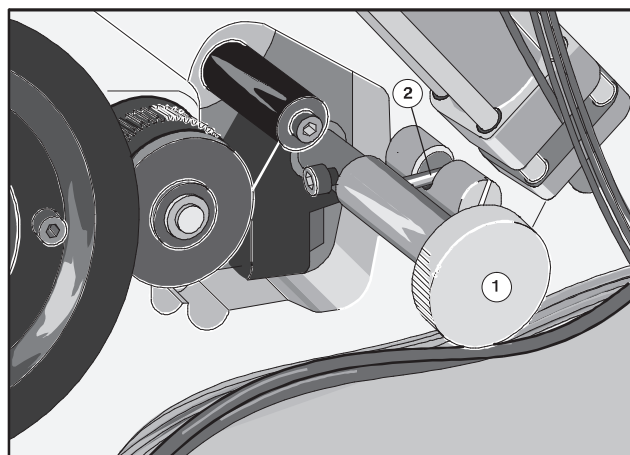

Fig. 54 Removing the blanket washup device
2. Loosen the locking device (Fig. 54/2) of the blanket washup device by turning the handle (Fig. 54/1) counterclockwise.
3. Using the handle (Fig. 54/1), pull the blanket washup device out of the side frame.